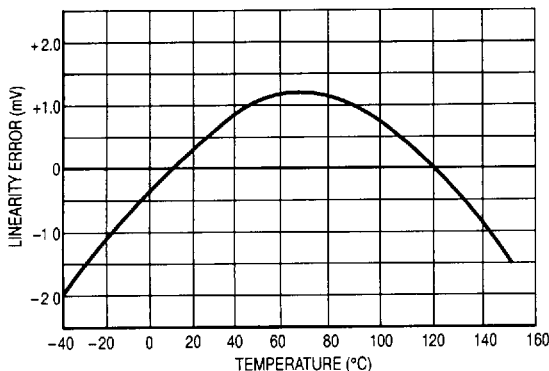

Figure 4. Linearity Error versus Temperature
2. All devices within an individual group, as described in Note 1, will track within the specified temperature accuracy. This includes variations in T_C , V_{BE} , and nonlinearity in the range -40 to $+150^\circ\text{C}$. Nonlinearity is typically less than $\pm 1^\circ\text{C}$ in this range. (See Figure 4)